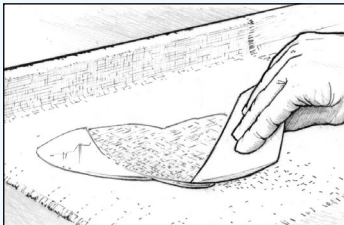

Figure 29 Spread the epoxy over the cloth surface with a plastic spreader.
5. Spread the epoxy over the cloth surface with an 808 Plastic Squeegee, working the epoxy gently from the pool into the dry areas (*Figure 29*). As the fabric is wet out it becomes transparent, indicating the cloth has absorbed sufficient epoxy. If applying cloth over a porous surface, ensure that sufficient epoxy is left to absorb into both the cloth and the surface below. Try to limit the amount of squeegeeing as excessive “work” on the wet surface produces minute air bubbles which are placed in suspension in the epoxy. This is especially important if a clear finish is required.